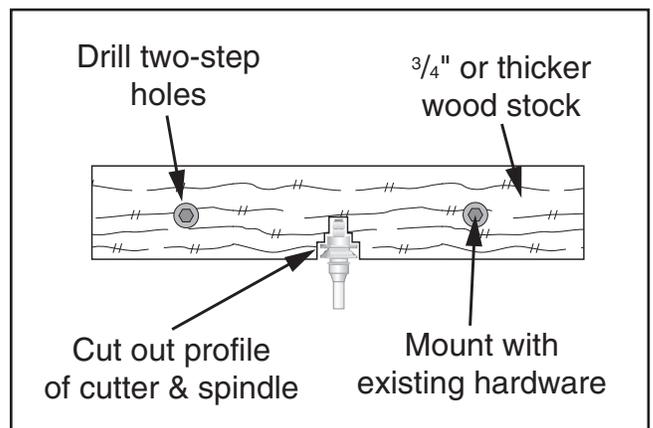

Figure 46. Example of a zero-clearance fence.
6. Cut an outline of spindle and cutter from center of stock, as illustrated in **Figure 46**.